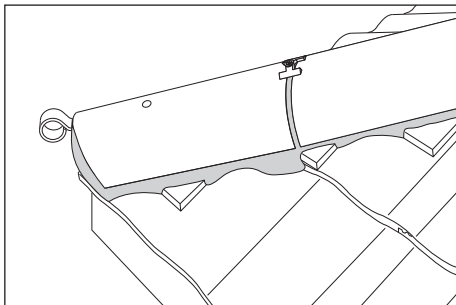

Fig. 37 – Mechanically fixed hip tiles
- 4 Mortar bedded hip tiles must also be mechanically fixed using the Marley Eternit mortar bedded security hip fixing kit, see Fig. 37 and pages 106-107.